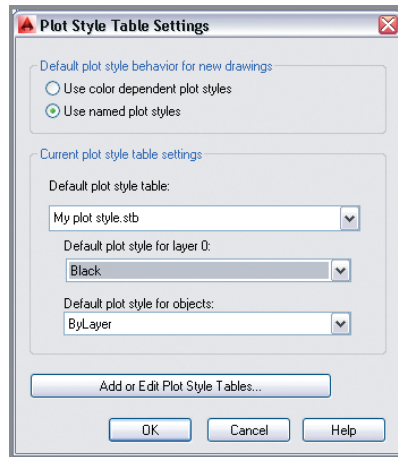

FIGURE 14.12 Configuring the default plot style behavior and settings for new drawings
2. Click the Plot Style Table Settings button in the lower right of the Options dialog box. Select the Use Named Plot Styles radio button in the Plot Style Table Settings dialog box that appears. Select `My plot style.stb` from the Default Plot Style Table drop-down menu. Select Black from the Default Plot Style For Layer 0 drop-down menu. Select ByLayer from the Default Plot Style For Objects drop-down menu if it is not already selected (see Figure 14.12). Click OK, and then click OK again to close both of the open dialog boxes.